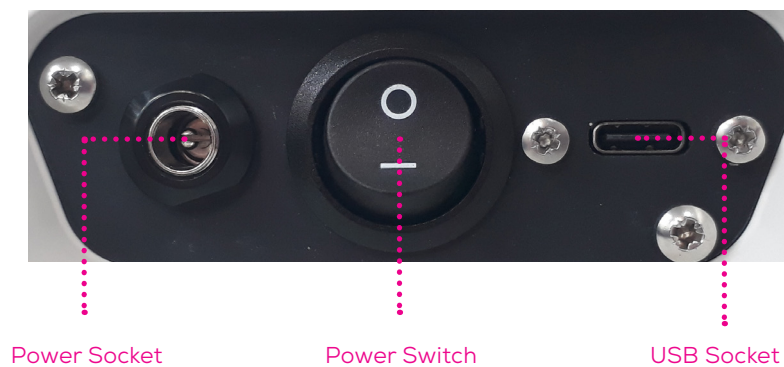

Figure 8: Switches and sockets on the Exoid.
8. Turn off the switch on the Exoid. The off position is where the full "O" symbol is pressed down as indicated in Figure 8.